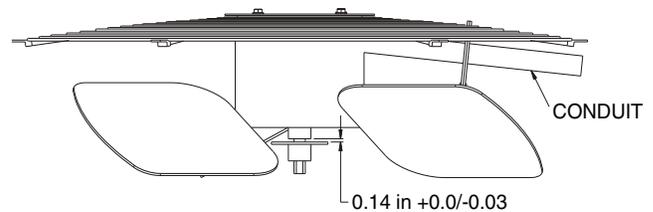

Fig. 14 - Condenser Fan Adjustment (D08-D12)
4. Adjust fan height as shown in Fig. 14.